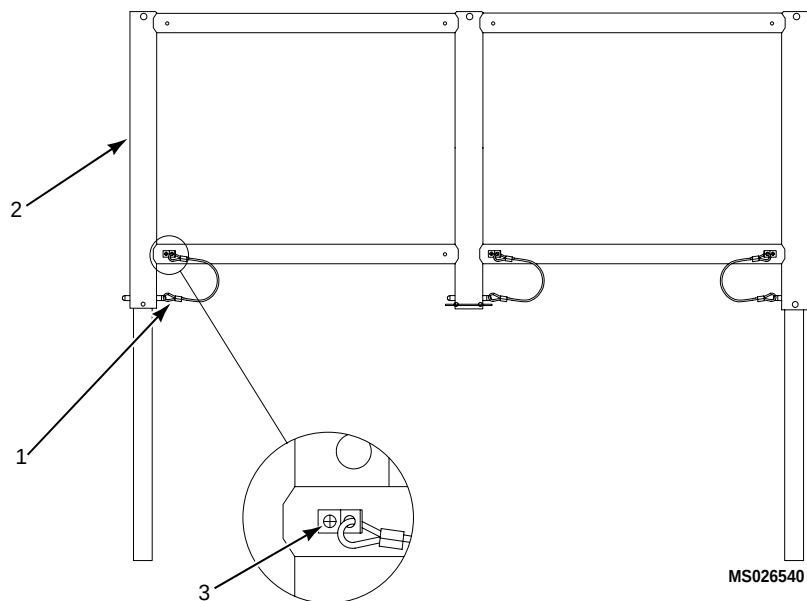

Figure 2. Locking Pin Assembly Replacement
1. Remove locking pin (1) from handrail (2).
2. Remove/install screw (3) to replace assembly. (Figure 2)